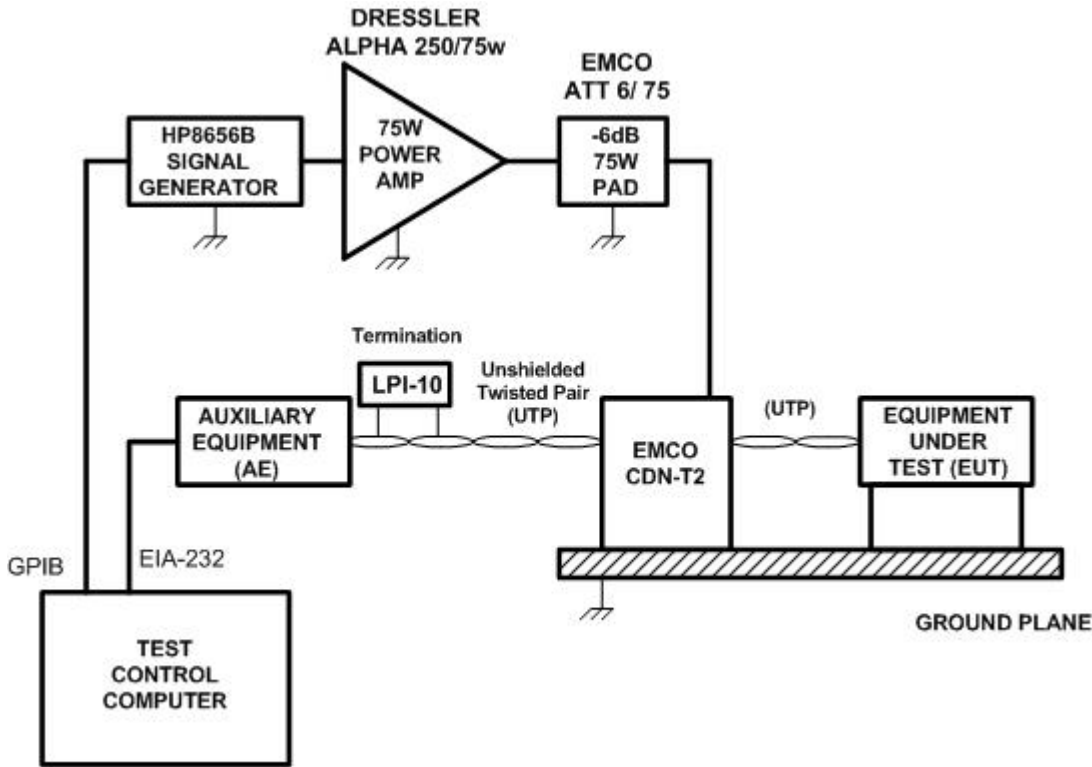

Figure 6.4 Typical EN 61000-4-6 Test Set-up for Unshielded Twisted Pair (UTP)
EN 61000-4-6 Conducted RF Immunity testing is performed on a metal test table using an RF signal generator, an RF power amplifier, and specialized “coupling-decoupling” network (CDN) devices. A typical test setup for use with LONWORKS network devices is shown in figure 6.4. The test equipment drives a large common-mode noise voltage onto the twisted pair cable that connects to the Equipment Under Test (EUT). The Auxiliary Equipment (AE) must be able to continue communicating with the EUT during the test. The CRC error rate for this communication should generally be less than 1%, indicating a negligible loss of network functionality. During the test, the RF signal generator is set to an amplitude modulation (AM) depth of 80%, and the frequency is slowly swept from 150kHz to 80MHz . Level 2 testing, which represents a “light industrial environment,” is performed with an injected common-mode voltage on the EUT’s network cable of 3V_{rms} ($15.3\text{V}_{\text{p-p}}$ including
A typical set-up for EN 61000-4-6 testing of an LPT-11-based device and unshielded twisted pair network wire is shown in figure 6.4.